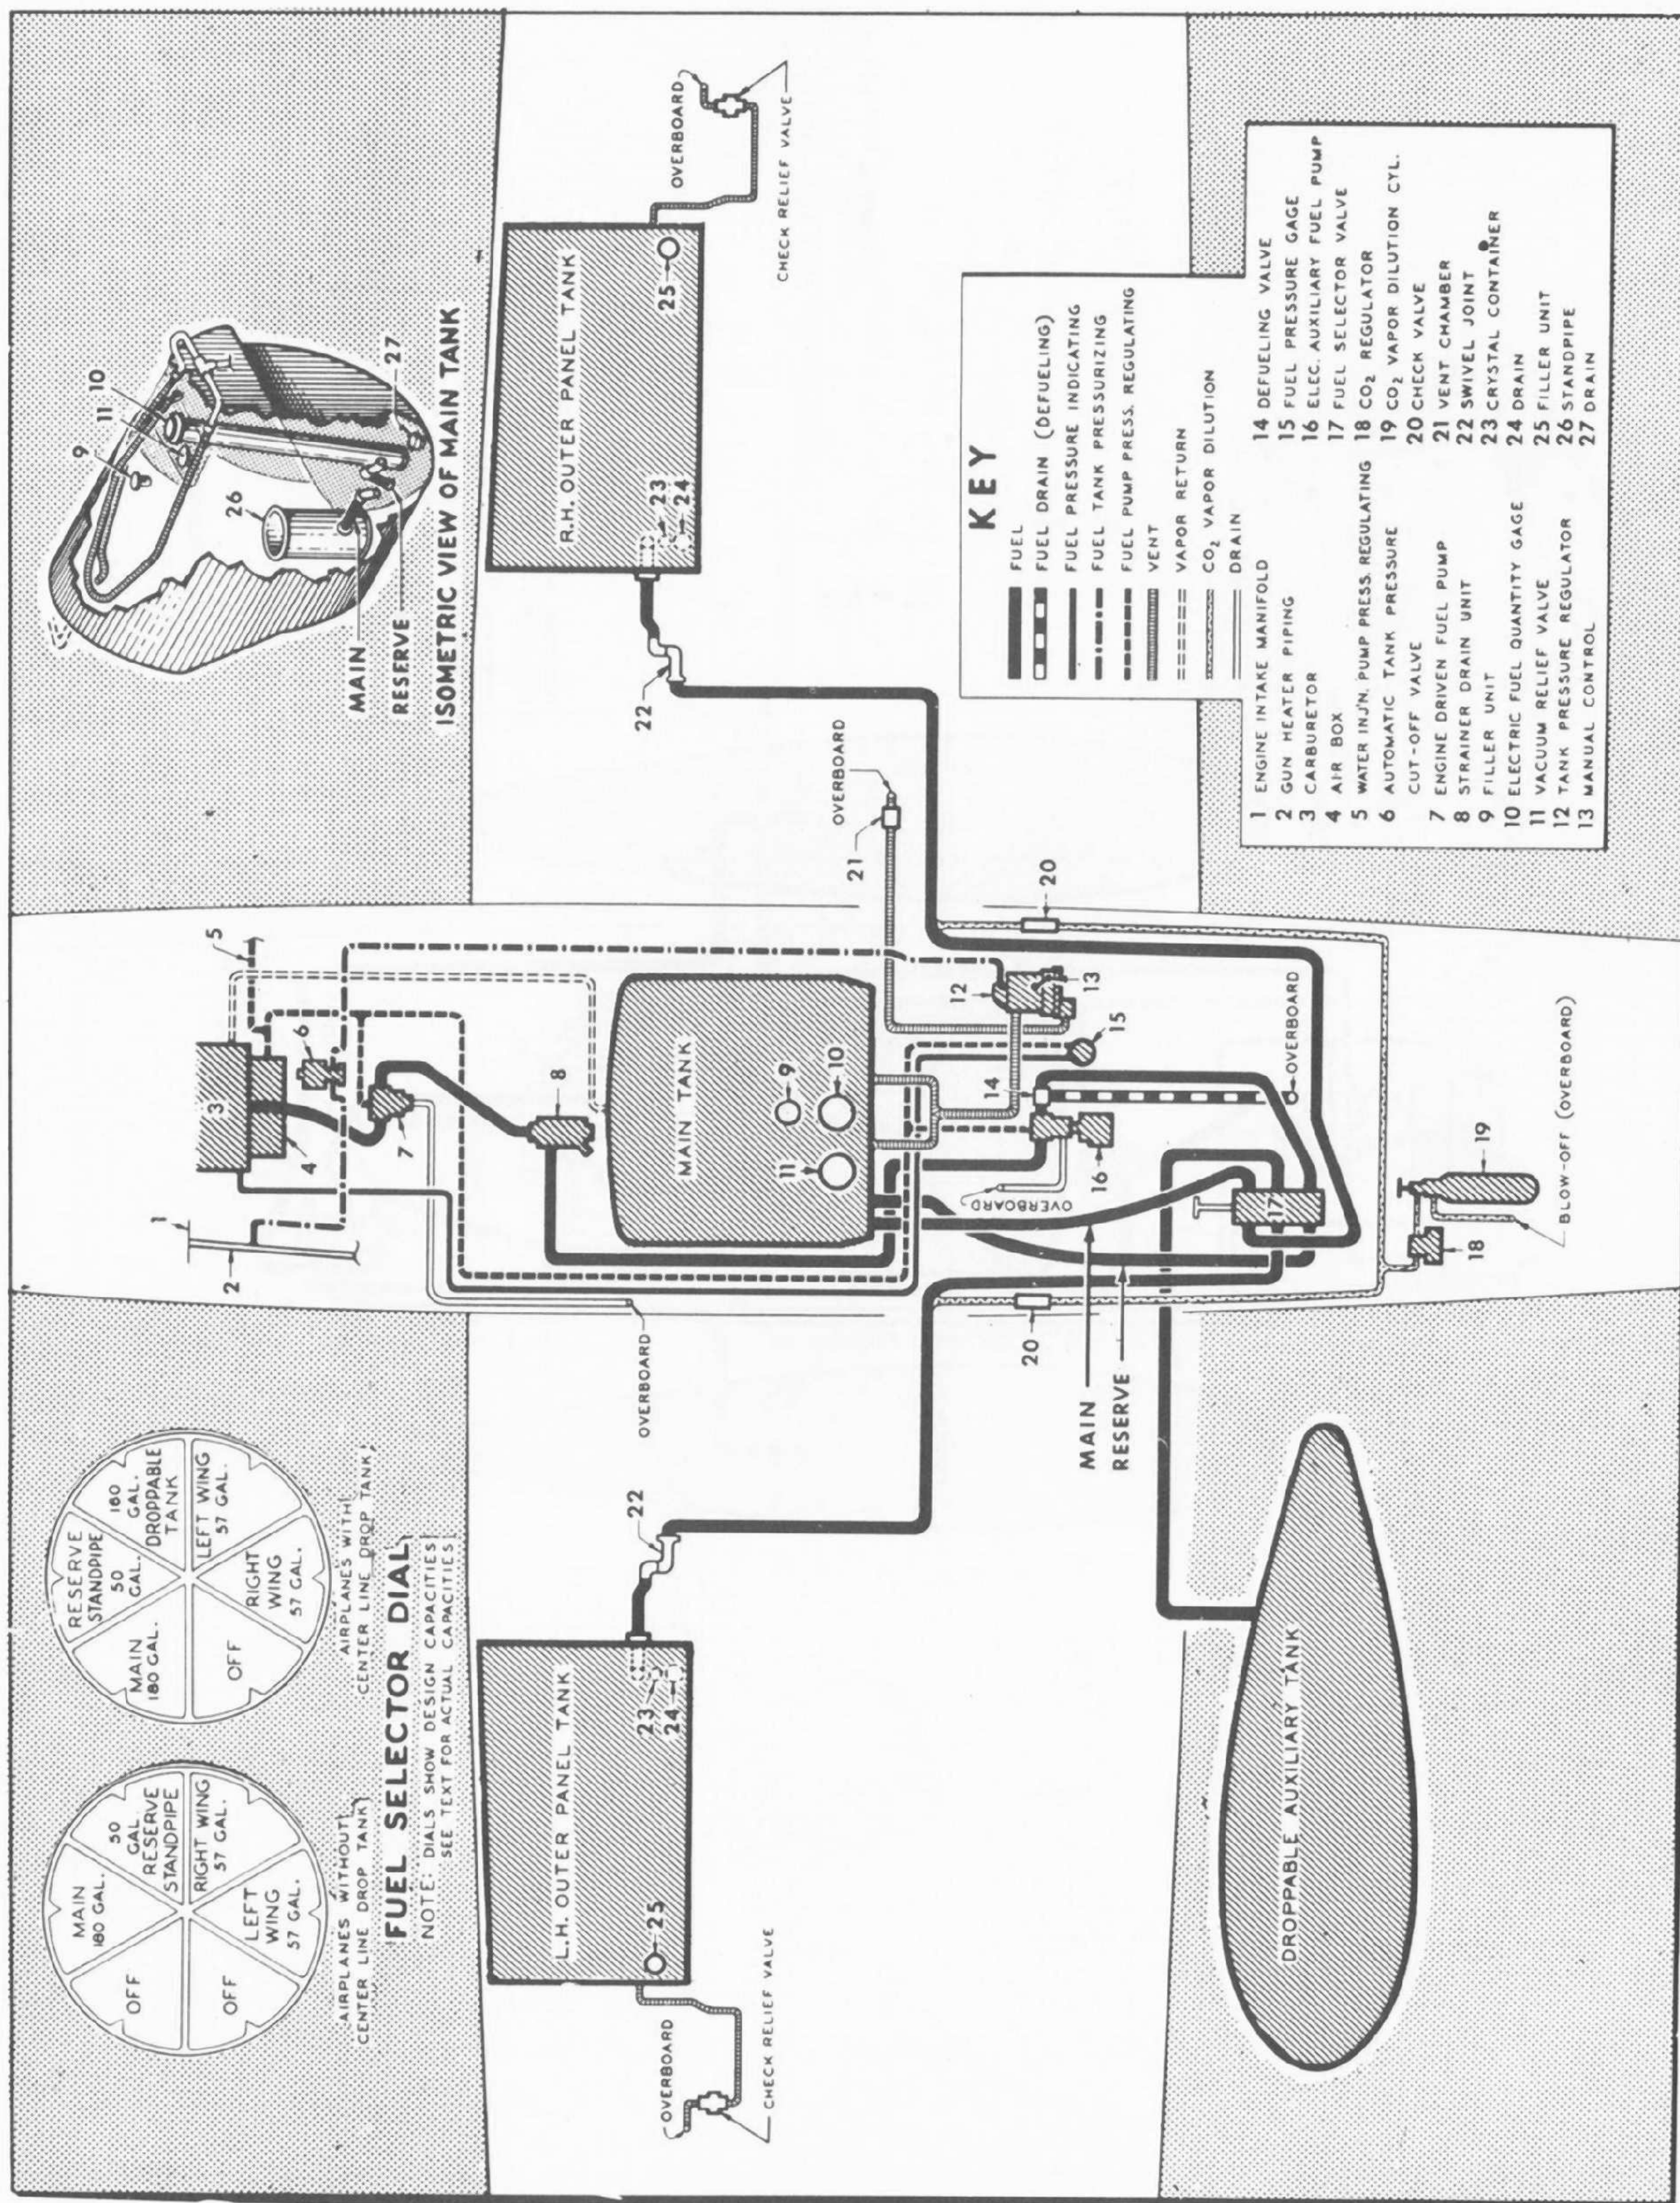

Fig. 11 — Fuel System on Airplanes Prior to Installation of Twin Pylon Droppable Tanks
(1) The fuel system for Model F4U-1, F3A-1, FG-1 airplanes and British airplanes, serial numbers JT-100 to JT-554 inclusive (prior to center section twin pylons installation), is shown on figure 11.
c. **FUEL TANK SELECTOR.** — The respective fuel selectors for the fuel systems described above are shown on figures 11 and 11A.